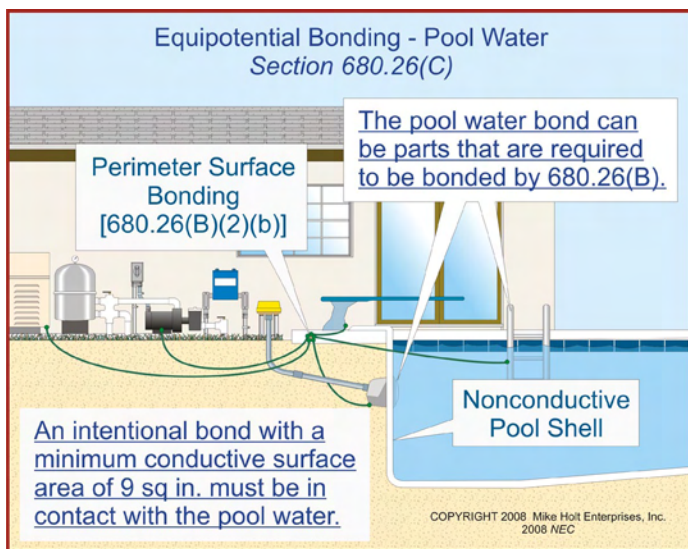

Figure 680–34
(C) Pool Water. A minimum conductive surface area of 9 sq in. must be installed in contact with the pool, outdoor spa, or outdoor hot tub structure water. This water bond is permitted to consist of metal parts that are required to be bonded in 680.26(B). **Figure 680–34**